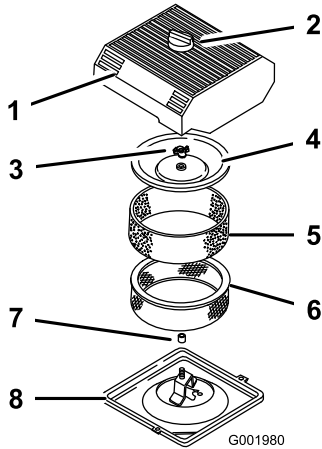

Figure 42
3. Clean around the air cleaner to prevent dirt from getting into the engine and causing damage (Figure 42).
4. Loosen the knob on the air cleaner cover and remove the cover (Figure 42).
5. Carefully slide the foam element off the paper element (Figure 42).
6. Unscrew the cover nut and remove the cover and paper element (Figure 42).
1. Carefully slide the foam element onto the paper air cleaner element (Figure 42).
3. Install the cover nut finger-tight against the cover (Figure 42).
4. Install the air cleaner cover and knob (Figure 42).